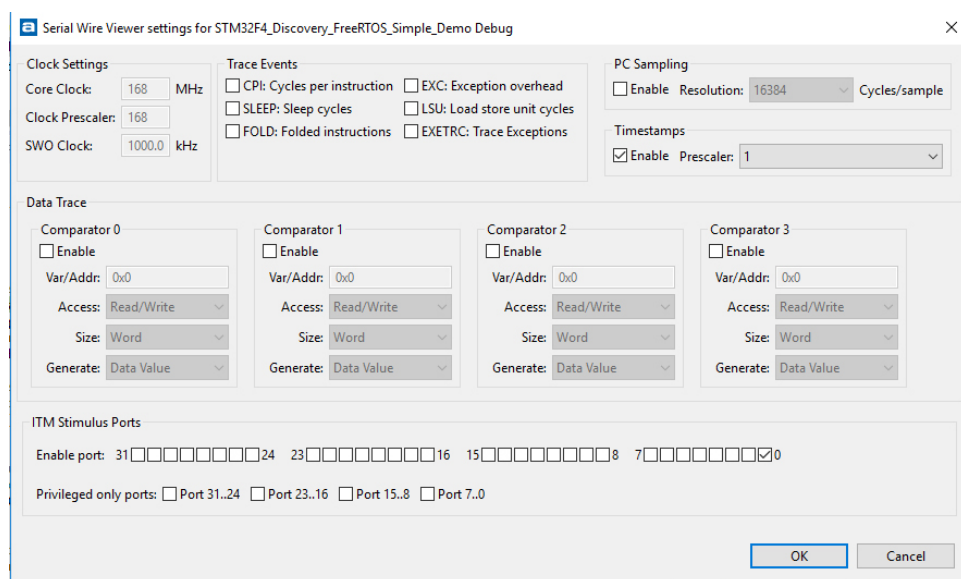

Figure 6. Enabling Port0 of ITM.
21. Check port0 box under **ITM Stimulus Ports** as shown in Figure6. Click **OK** to close the window.